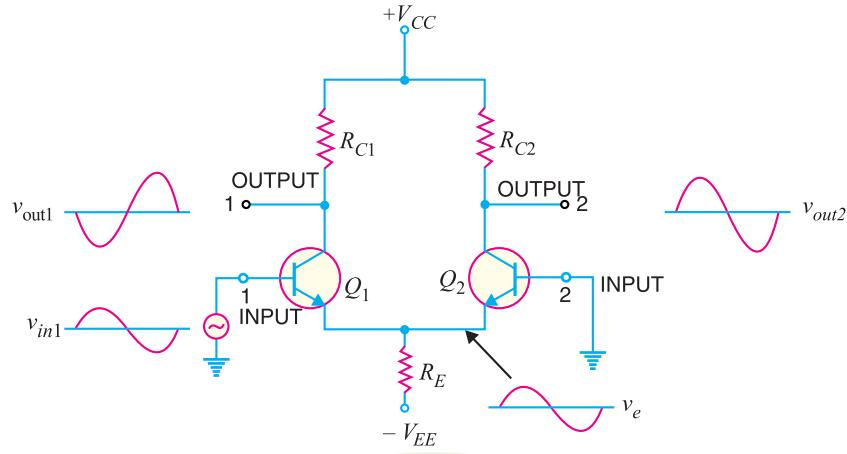

Fig. 25.5
- (i) Suppose the signal is applied to input 1 (i.e., base of transistor Q_1) and input 2 (i.e., base of transistor Q_2) is grounded as shown in Fig. 25.5. The transistor Q_1 will act in two ways : as a common emitter amplifier and as a common collector amplifier. As a common emitter amplifier, the input signal to Q_1 (input 1) will appear at output 1 (i.e., collector of Q_1) as amplified inverted signal as shown in Fig. 25.5. As a common collector amplifier, the signal appears on the emitter of Q_1 in phase with the input and only slightly smaller. Since the emitters of Q_1 and Q_2 are common, the
emitter signal becomes input to Q_2 . Therefore, Q_2 functions as a *common base amplifier. As a result, the signal on the emitter of Q_2 will be amplified and appears on output 2 (i.e., collector of Q_2) in phase with the emitter signal and hence in phase with the input signal (signal at input 1). This is illustrated in Fig. 25.5.
- (a) When signal is applied to input 1 (i.e., base of transistor Q_1 in Fig. 25.5), an inverted, amplified signal appears at output 1 and non-inverted, amplified signal appears at output 2. Reverse happens when signal is applied to input 2 and input 1 is grounded.